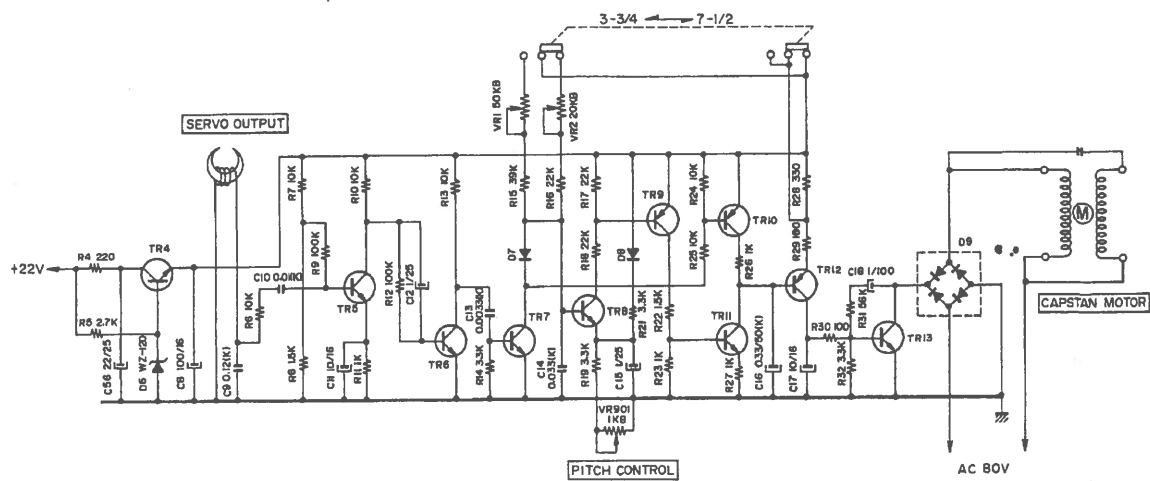

Fig. 6
2) Explanation of the circuit operation (Refer to Figs. 6, 7)